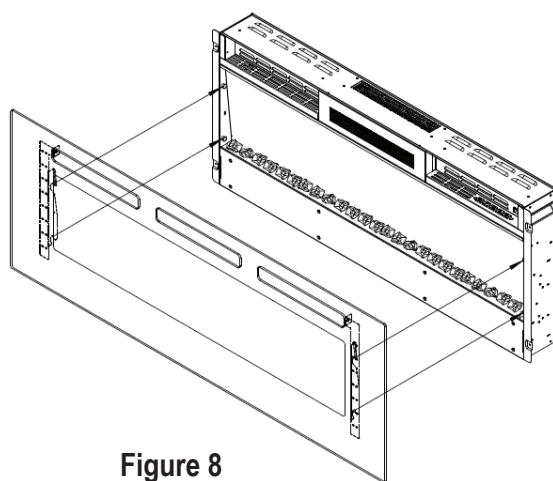

Figure 8
- L. With assistance of another person, attach the front glass using the screws that were removed during Step B. Ensure the glass is fully secured and stable before releasing it. [Figure 8]